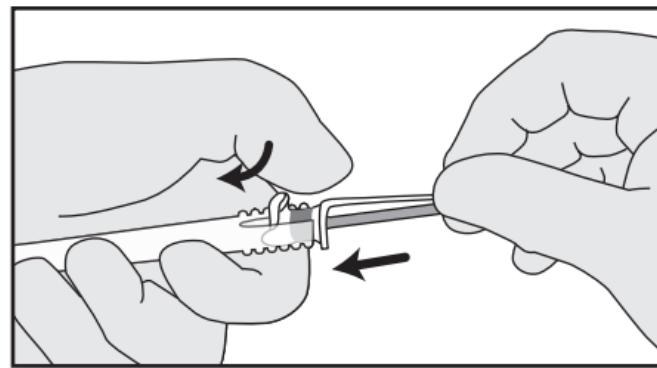

Figure 6
4. Push the Inserter Pin forward about 1 cm (~0.4 inches) (Fig.6).